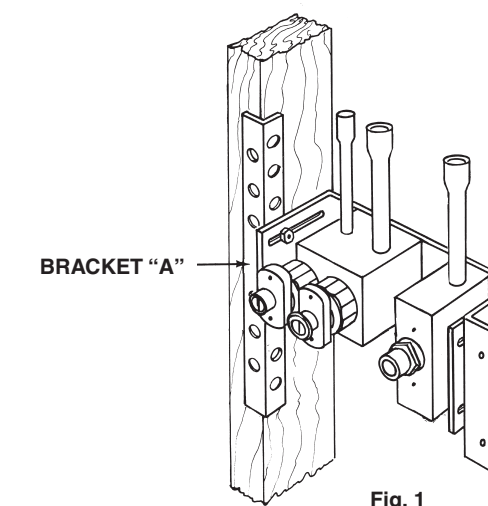

Fig. 1
- LOCATION:** Select appropriate location for mounting station to a stud prior to installing drywall or wall board. Secure bracket "A" to stud. (Fig. 1)